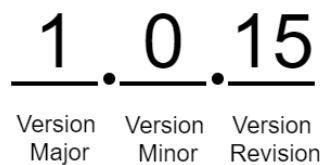

Figure 5-2: Example FW Version Format
- Bits 32 to 55 of the value contain the application revision numbers which define the FW version. The FW version is reported in the format as shown in Figure 5-2, which is shown using the example FW v1.0.15 (value 0x 01 00 0F).
- Bits 8 to 31 of the value contain the LoRa Basics modem version numbers. The format is the same as shown in Figure 5-2. This number is not to be confused with the LoRaWAN specification version according to the LoRa Alliance standards. The LoRaMAC version number is the version of the FW used by the LR1110.
- Bits 0 to 23 of the value contain the BLE stack version numbers. The BLE stack is the SW published by Bluetooth and not developed by TEKTELIC. The version is reported in the format as shown in Figure 5-2.